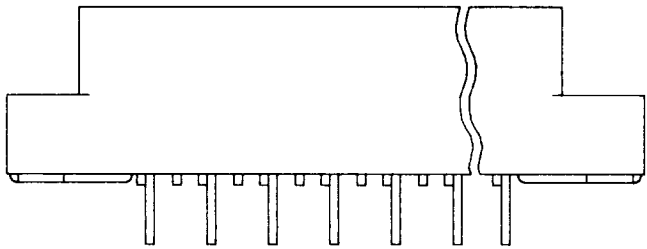

Fig. 13—KS-16182-Type Connector
2.09 KS-16182, L1 Through L12: The KS-16182-type is a female connector (Fig. 13) consisting of gold-plated, phosphor-bronze terminals mounted in a plastic block. The terminals are arranged to make contact with foil terminals on the edge of a printed wiring board or with KS-19276 plugs. For more information, see Table E.